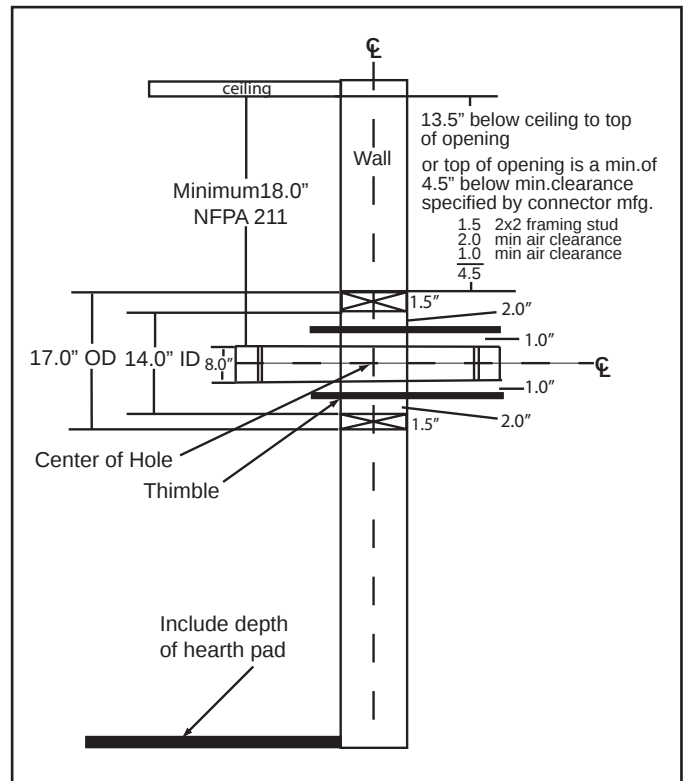

Figure 17.1
- Top of wall opening is a minimum of 13-1/2 inches (343mm) from ceiling or 4-1/2 inches (114mm) below minimum clearance specified by chimney connector manufacturer. NFPA 211 minimum vertical clearance of 18 inches (457mm) from chimney connector and ceiling or minimum recommended by chimney connector manufacturer. **Figure 17.1.**
1. Open inside wall at proper height for the chimney connector to entry the masonry chimney. **Figure 17.1.**
3. Construct a 17 inch x 17 inch (432mm x 432mm) outside dimension frame from 2 x 2 framing lumber to fit into wall opening. Inside opening of frame should be no less than 14 inch x 14 inch (356mm x 356mm). **Figure 17.1.**